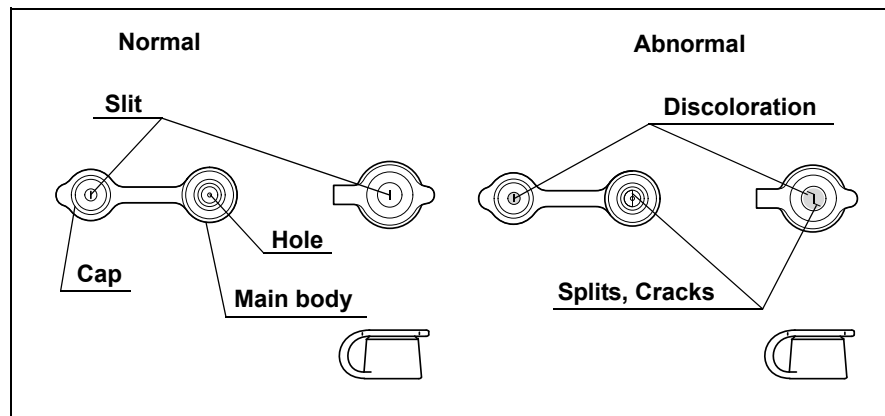

Figure 3.7
1. Confirm that the slit and hole on the biopsy valve have no splits, cracks, deformation, discoloration or other damage (see Figure 3.7).